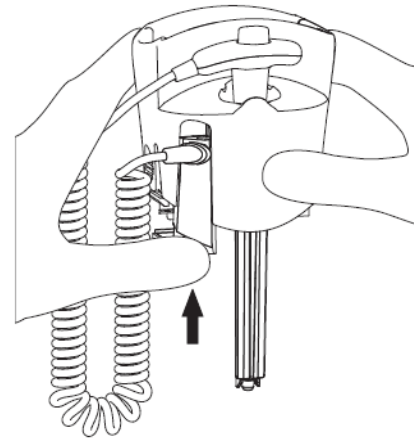

Figure 67: Changing Temp Probe
- 5) Then slide the connector up into the slot pressing the bottom of the connector (refer to Figure 67).